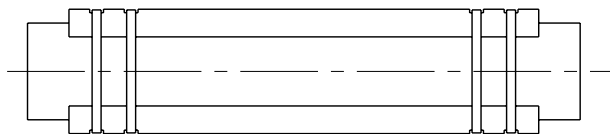

Figure 6-6 Typical skid arrangement
- 2** For an easy insertion and for protection from sliding damage the pipes should be equipped with plastic spacers, steel sleeves or wooden skids (as shown in **Figure 6-6** and **6-7**). These must provide sufficient height to permit clearance between the coupling joints and the casing wall.